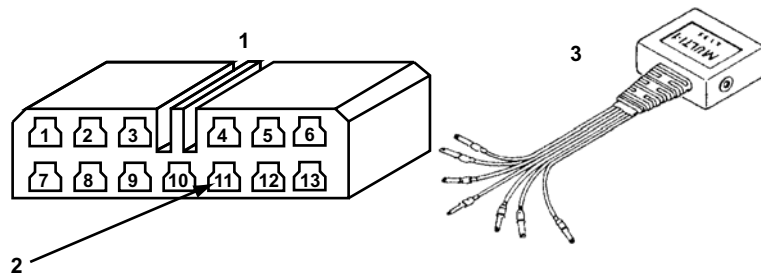

Figure 15-22 13-pin Check connector
- a. If your Check connector is natural in color, connect the blue wire of the MULTI-1 adapter to pin 11 of the Check connector (Figure 15-22).